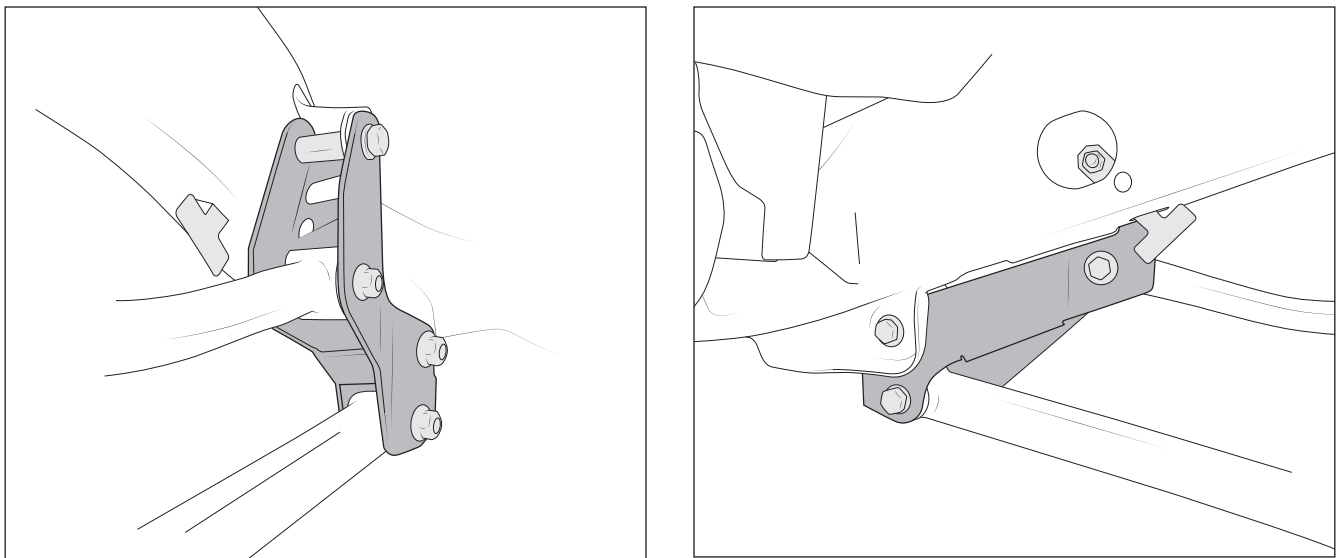

Figure 2: Inboard View (left) Outboard View (right)
3. Install the brackets as shown (Fig. 2). Use the factory hardware and supplied spacers (which will fill the void for the control arms) in the original control arm mounting locations.
4. Use the supplied bolts, nuts, and washers to mount the control arms in the new dropped locations. Use M12 fasteners for the upper control arms and M16 for the lower control arms (Fig. 2).